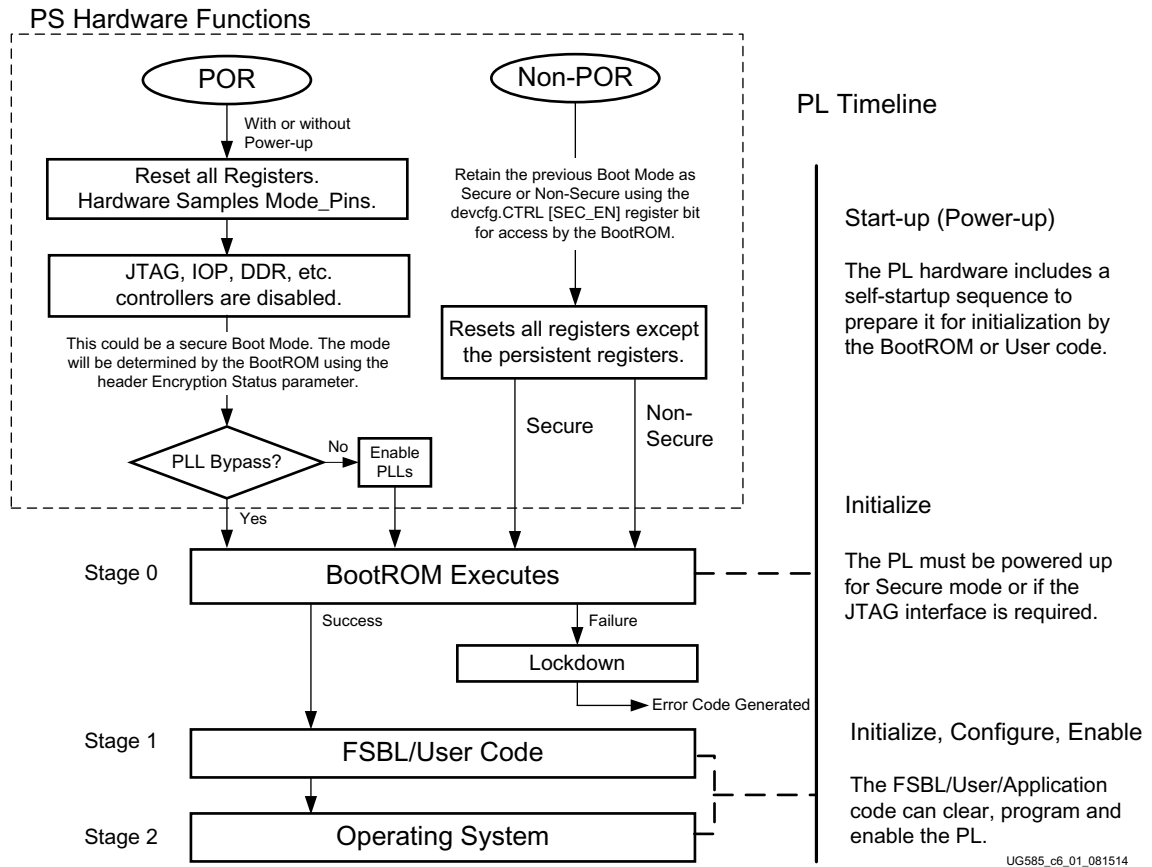

Figure 6-1: PS/PL Boot Process for Hardware and Software
- Figure 6-1
The first software to run is the BootROM, then the FSBL/User code and system code. All of these steps are shown in Figure 6-1.
These steps and their subcomponents are illustrated in Figure 6-1, page 150.